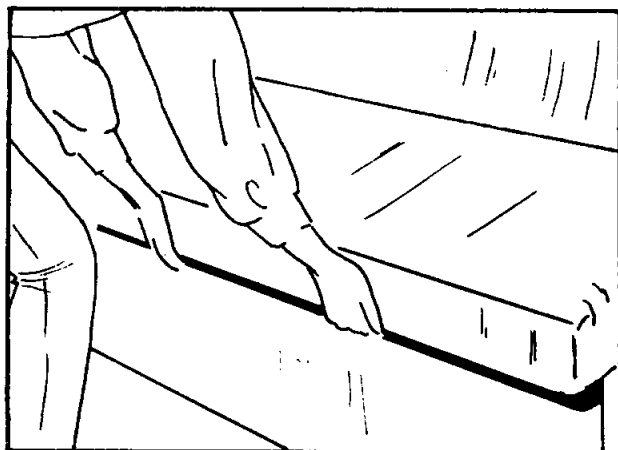

FIGURE 33
40. Lift the backrest off the dinette table and slide the seat cushion inboard. Set the backrest in place against the side wall. Slide the seat cushion in place, making sure that the plastic stops are wedged firmly against the interior of the metal seat frame. (See Figures 33 and 34.)
14. Remove the backrests from their positions. Slide the seat cushions outboard and place the backrests, cushion side down, on the stored dinette table. See Figures 33 and 34.